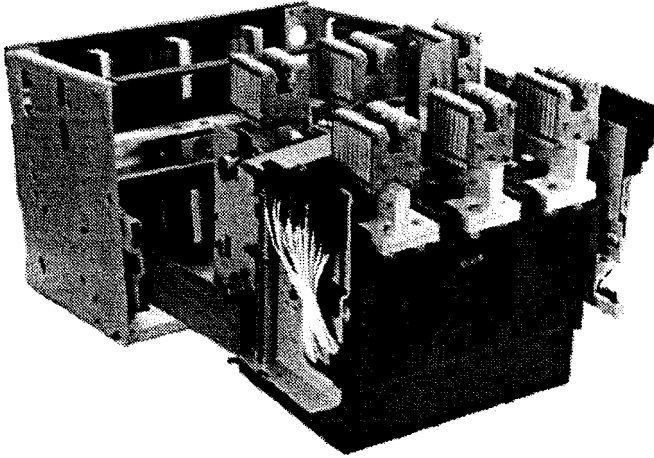

Figure 10. Rotating the breaker forward for inspection.
4. The breaker can now be rotated about the front roller by pulling forward, as illustrated in Figure 10, for inspection of the rear of the breaker, or it can be completely removed after attaching the Lifting Bar, as illustrated in Figures 4 and 5.